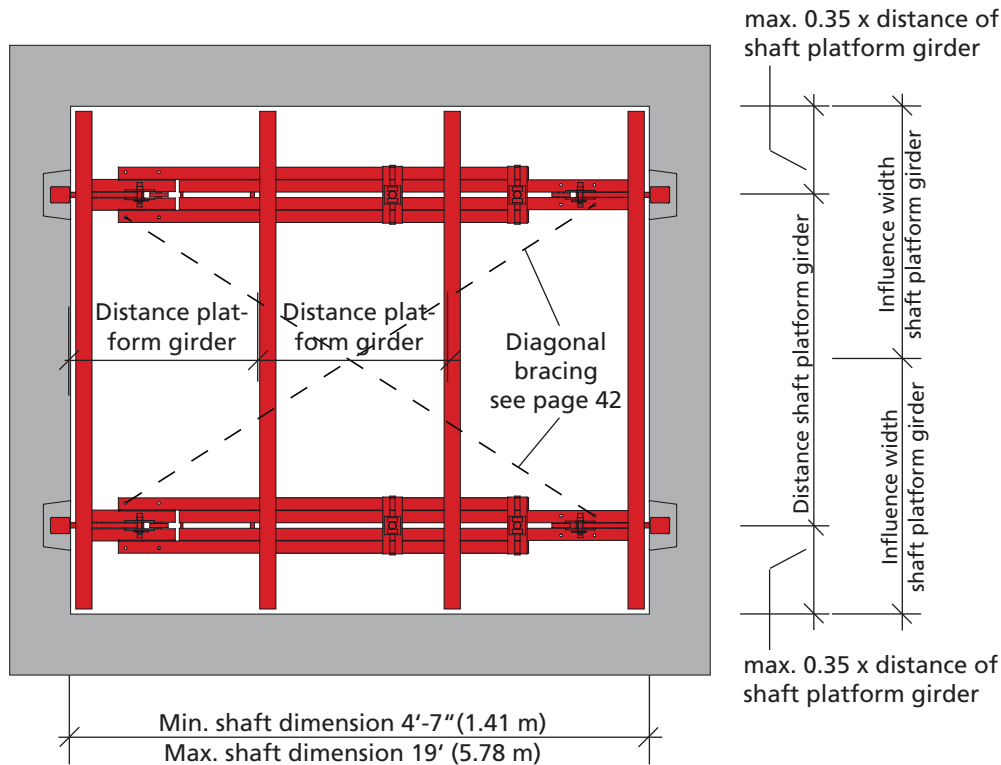

Fig. 41.1
Six (6) different shaft platform girders are available to handle shafts with a min. dimension of 4'-7" (1.41 m) and a max. dimension of 19' (5.78 m) (Fig. 41.1).
A crane sling must be attached at each crane eye of each shaft platform girder when moving the platform (Fig. 41.1).